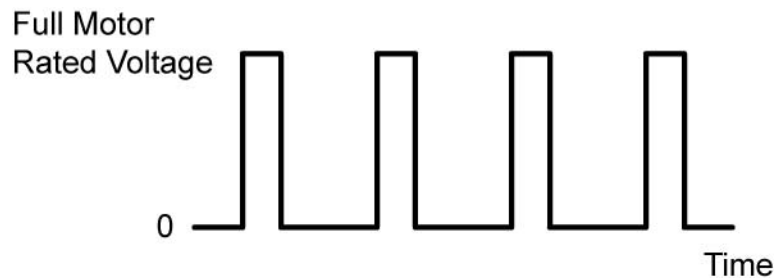

Figure 1: Sample Pulse-Width-Modulation (PWM) Signal Waveform
- **Introduction:** Electric motor speed is controlled by increasing and decreasing the effective voltage to the motor. More voltage and the motor rotates faster, less voltage and the motor slows down. The instinctive way to control motor speed is to connect a rheostat between the motor and the power supply to adjust the voltage, but this method has several shortcomings which will be discussed in this lesson. A better method of managing motor speed is to switch the power to the motor on and off very quickly. Rather than slowing a motor down by reducing the motor supply voltage from the full rated voltage, PWM produces digital pulses at the full motor rated voltage. Pulse Width Modulation, or PWM, is a technique for creating the series of on-off pulses. This on-off square wave pattern changes the portion of the time the signal is on versus the time that the signal is off (Figure 1).